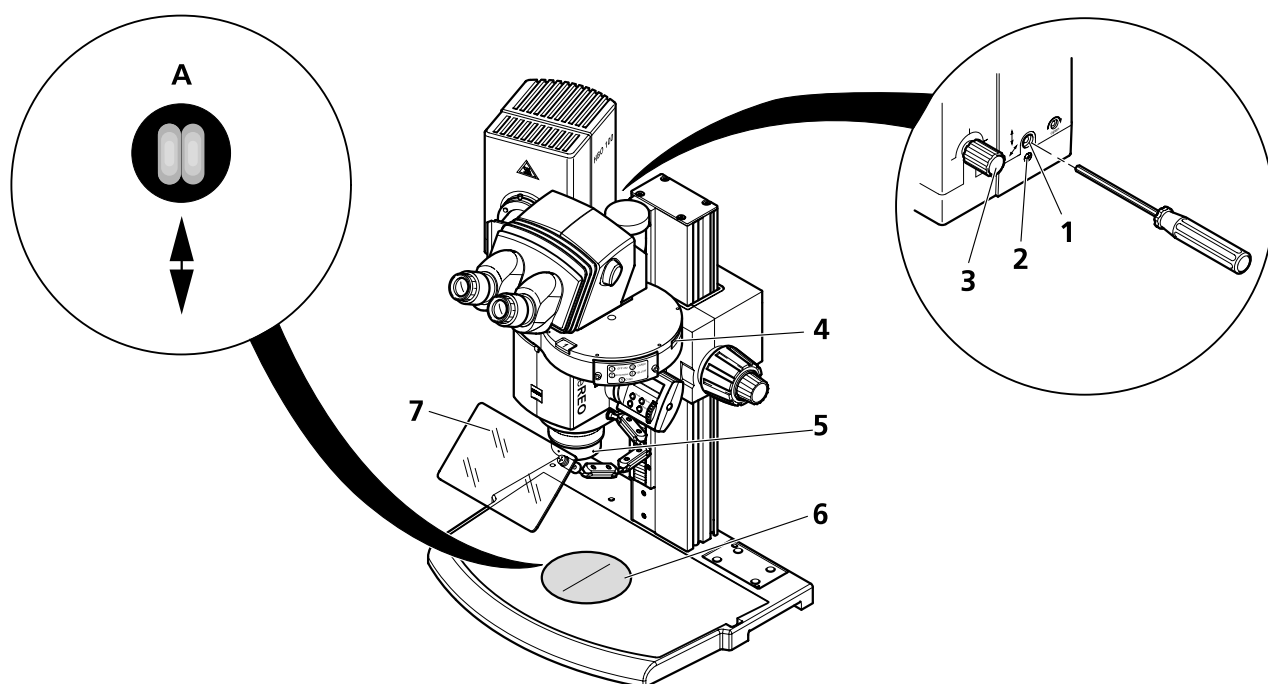

Fig. 43 Adjusting the HBO 100 illuminator
When working with UV light, always swing in the fluorescence protection screen (dazzle protector, Fig. 43/7) in front of the specimen to protect your eyes from scattered light.
4. Turn the filter wheel (Fig. 43/4) of the vertical illuminator to move a filter position into the light path.
When working with the filter block 58, ultraviolet radiation is incident on the object surface. Strictly avoid direct exposure to the skin. Take appropriate precautions when manipulating in the object plane (e.g. use of gliding stage, gloves, UV protection cream, etc.). Make sure to swing down the fluorescence screen (dazzle protector, Fig. 43/7) again after every change of the objective!
- Remove the specimen and put the adjustment circle, $d = 120\text{ mm}$ (Fig. 43/6), onto the stage (see page 120 for a description of the adjustment circle).
- Holding the objective (Fig. 43/5) safely **with both hands**, unscrew it from the microscope body or the objective nosepiece.
- Turn the collector knob (Fig. 43/3) on the HBO 100 until a focused image of the lamp arc/reflected image appears on the adjustment circle.
- Turn the screw for vertical adjustment (Fig. 43/1) until the lamp arc and its reflected image appear at the same level (Fig. 43/A).
- Turn the screw for horizontal adjustment (Fig. 43/2) in such a way that lamp arc and its reflected image appear, if possible, on both sides of the vertical line at the same level (Fig. 43/A).
- Holding the objective (Fig. 43/5) with both hands, turn it into the microscope body or the objective nosepiece.
- Turn the collector knob (Fig. 43/3) to adjust homogeneous illumination.
- Remove the adjustment circle (Fig. 43/6) and put the fluorescence specimen onto the stage.